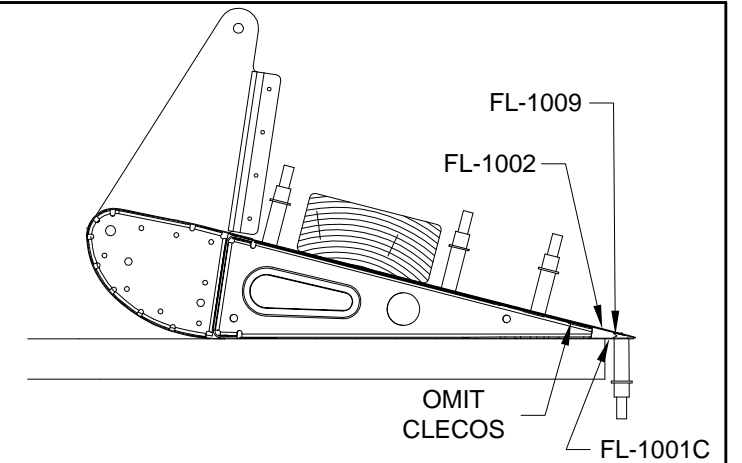

FIGURE 3: RIVETING BOTTOM SKIN
Step 4: Lay the flap top side down on a very flat surface as shown in Figure 3.
Cleco the trailing edge to the FL-1001C Top Skin and the FL-1002 Bottom Skin as shown in Figure 3.